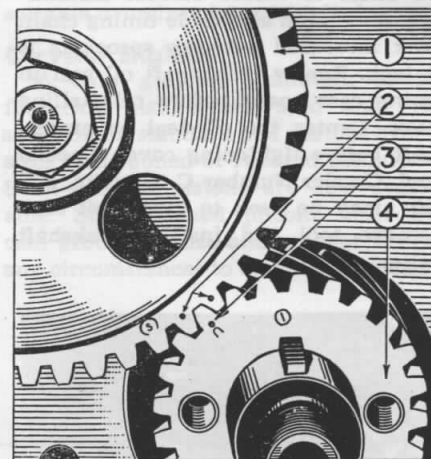

Fig. MH132—Continental timing gear markings.
45. To remove the timing gear cover first remove the hood, radiator, and grille. Loosen engine mounting bolts, raise front end of engine approximately one inch and block in position. Remove fan blades, belt, crankshaft pulley and governor. Remove nuts and cap screws which hold cover to engine and remove cover. Note which cap screws or studs are provided with copper washers and replace accordingly. Check gear timing marks to insure replacement in correct position, Fig. MH132.